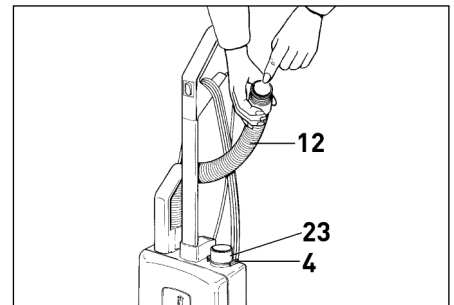

Figure 16
## Clogs in the Attachment Hose - Figure 16
Remove attachment hose (12) from vacuum cleaner (see figure 16) and remove front cover (7). Clean out connecting tube (23) and/or entrance to bag (28).